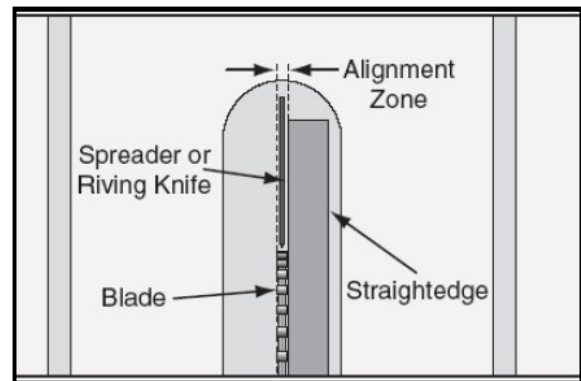

Figure 15
- 7.) Once they are properly aligned the spreader/riving knife will be within the alignment zone and parallel with the blade as shown in figure 15.